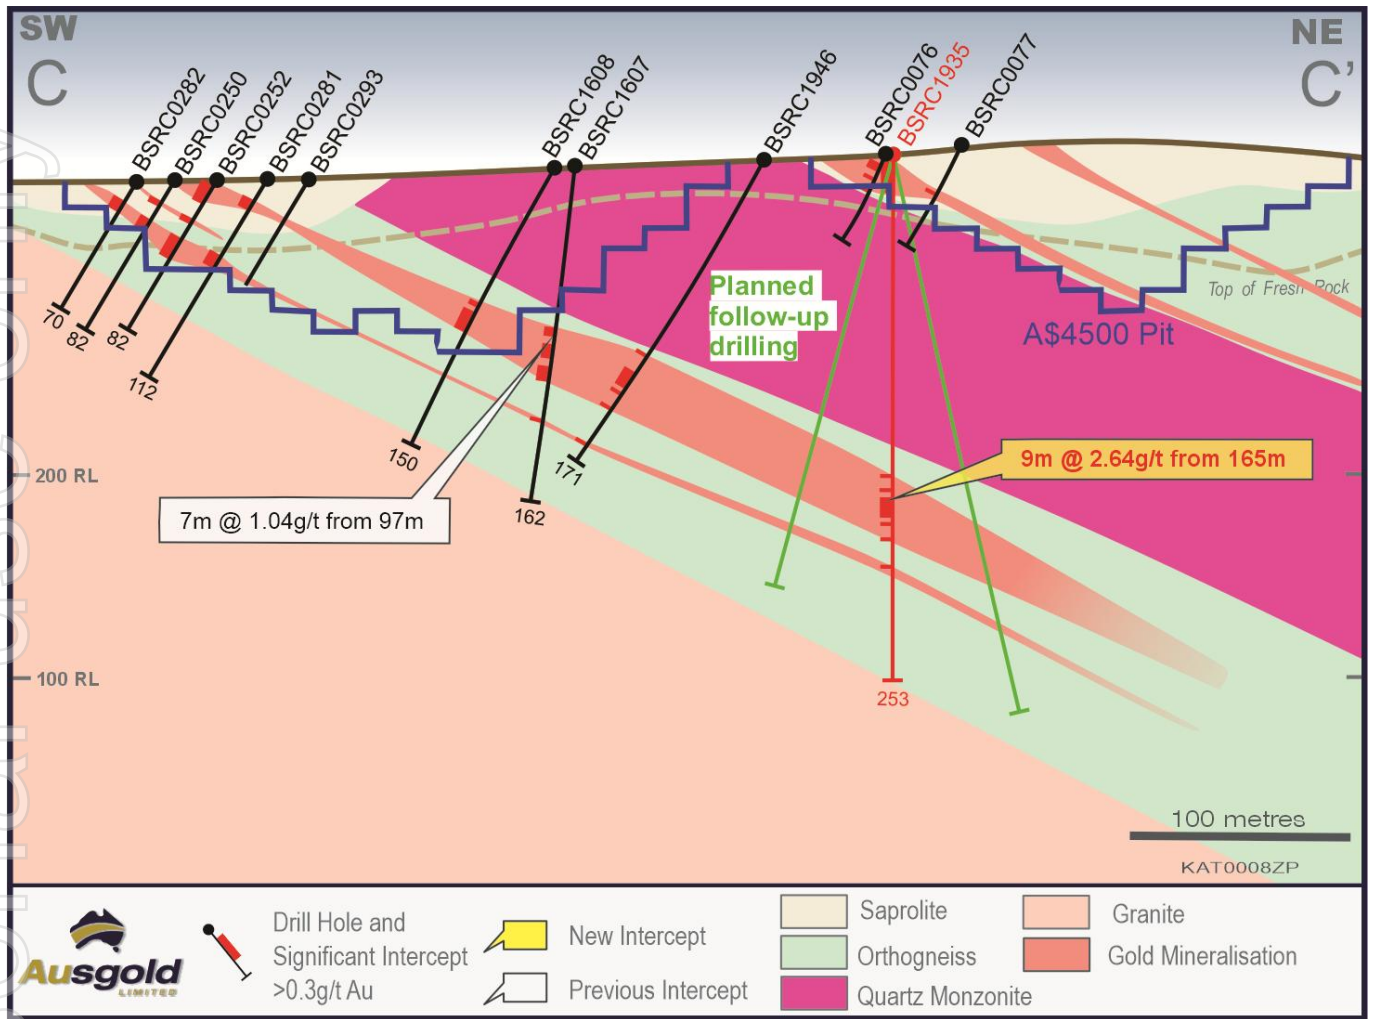

Figure 5 – Cross-section C-C' across the White Dam-Jackson Lodes with Resource Drilling and Pit
- **9m @ 2.64g/t from 165m in BSRC1935 (White Dam-Jackson) (Figure 5)**